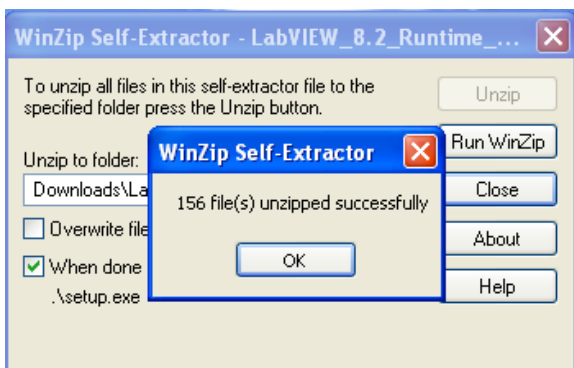

Figure 11. LabVIEW Unzipped Files
2. When the screen in Figure 11 appears, click **Unzip** to extract the files.